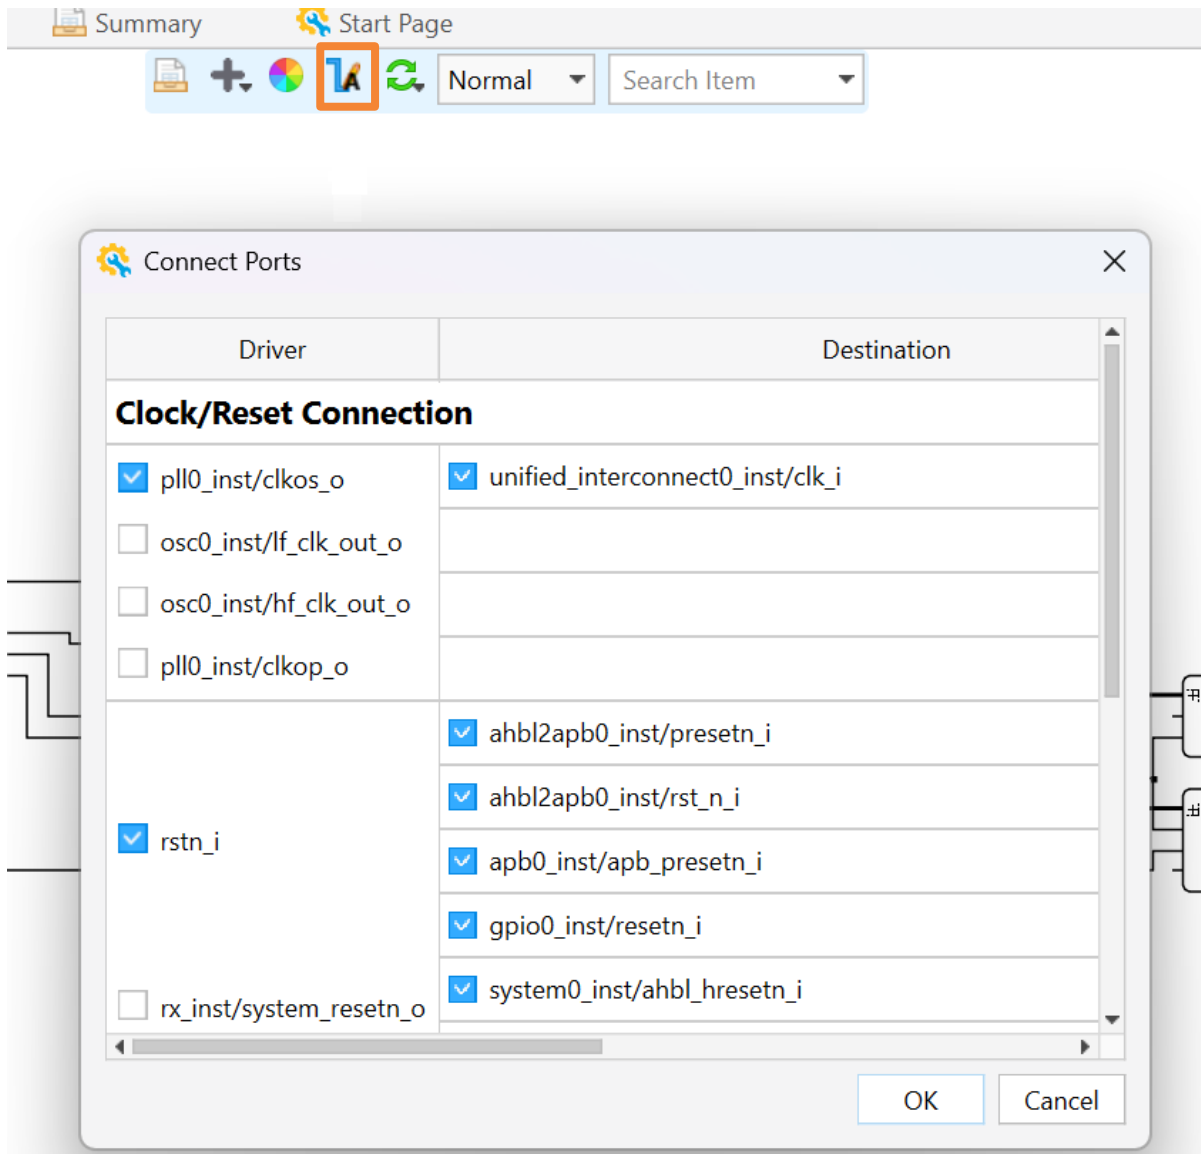

Figure 2.82. Auto Connect Button
- Auto connect button (Figure 2.82): trigger auto connect function.